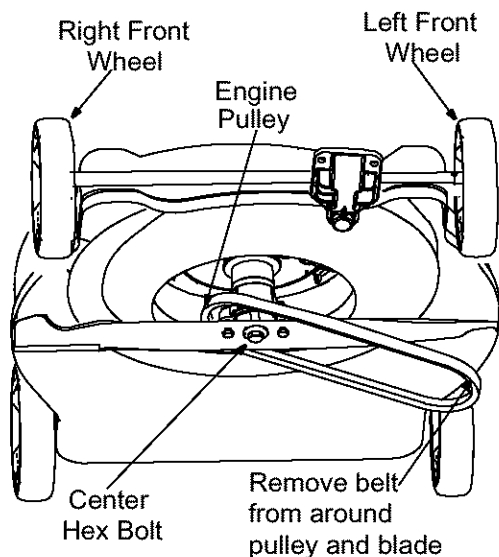

Figure 14
- Remove the belt from the transmission pulley as shown in Figure 14.
- Remove the belt from the engine pulley and around the blade. See Figure 14.